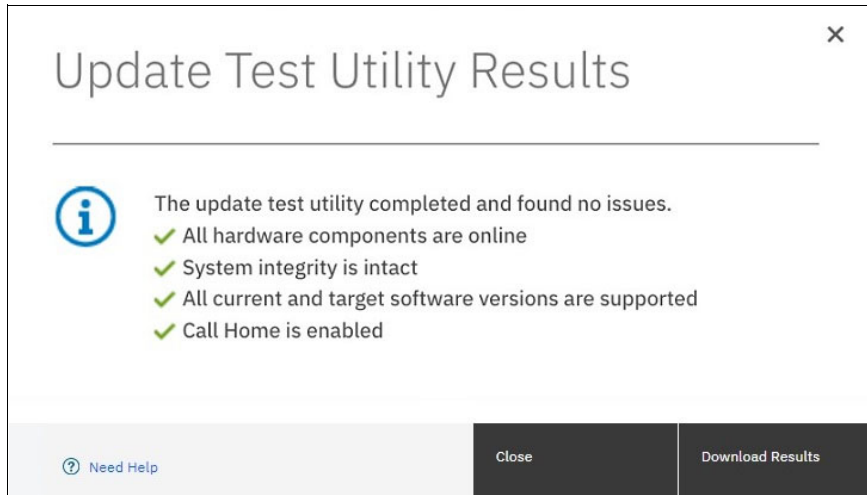

Figure 10-5 IBM FlashSystem Upgrade Test Utility completion panel
4. Click **Test**. The test utility verifies that the system is ready to be updated. After the Update Test Utility has completed, you will be presented with the results. The results will either state that there have been no warnings or problems found, or will direct you to details about known issues which have been discovered on the system. Figure 10-5 on page 431 shows a successful completion of the update test utility.